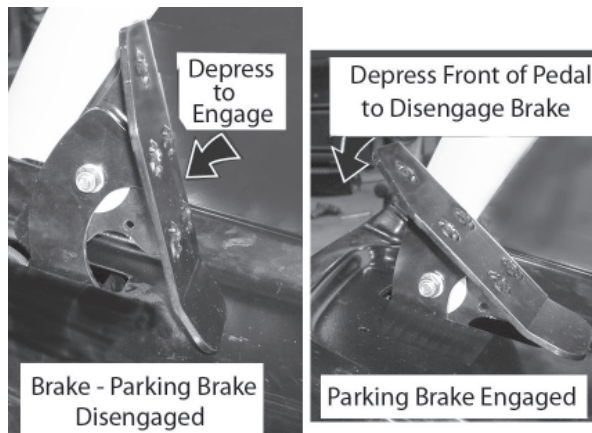

Figure 4-2
- Fully depress the center of the brake pedal to engage parking brake. Refer to Figure 4-2.
- To disengage the parking brake depress the front (top) of the brake pedal. See Figure 4-2.